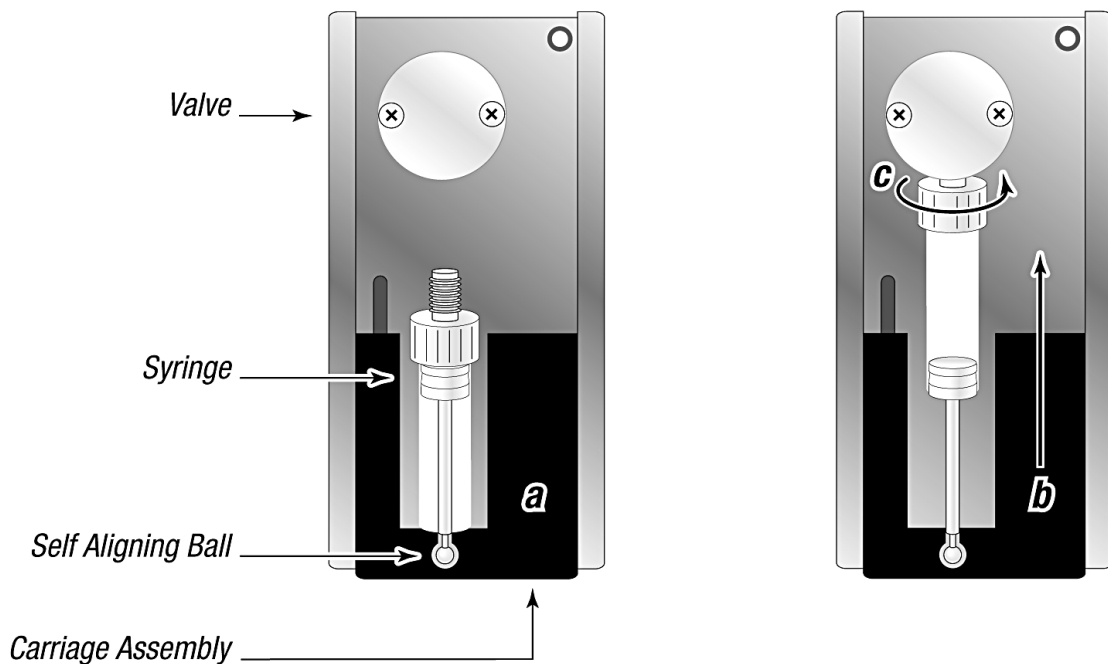

Figure 2-9. Syringe Installation
- 2 To install the syringe, do the following (as shown in Figure 2-9):